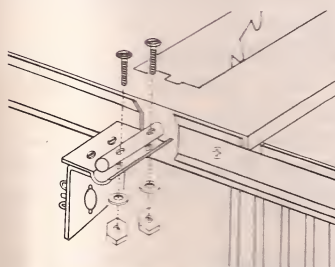

Figure 25B
- Install the guard bracket to the short round shaft extending from the rear of the table top as shown in **figure 25B** using the two machine screws, washers and hex nuts provided.